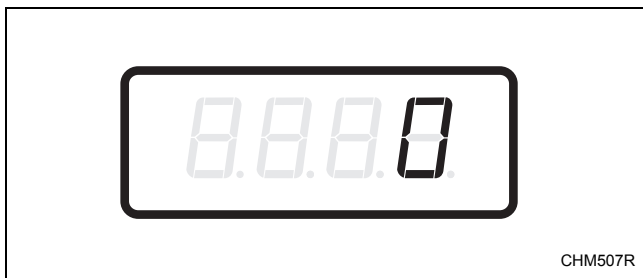

Figure 24
2. When “SA14” appears in the display, press the START (enter) keypad. There are five digits in the Special Vend A Perm Press Hot Vend Price. The fifth digit will appear in the display and will flash one (1) second on and one (1) second off. Refer to *Figure 24*.